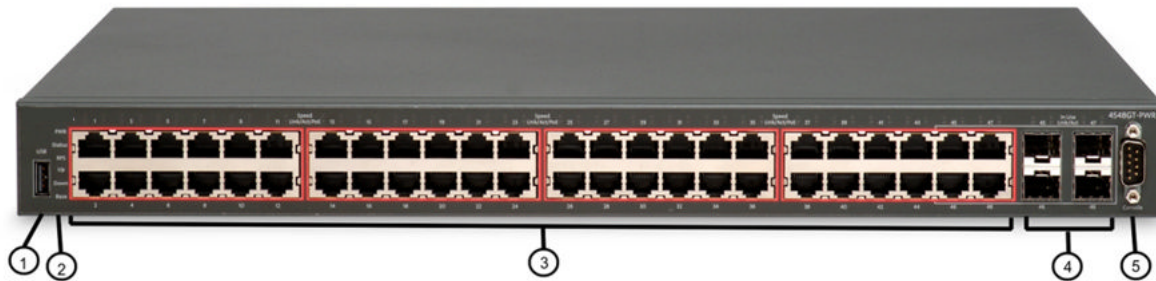

Figure 5: Avaya Ethernet Routing Switch 4548GT-PWR
- Figure 5: Avaya Ethernet Routing Switch 4548GT-PWR on page 38